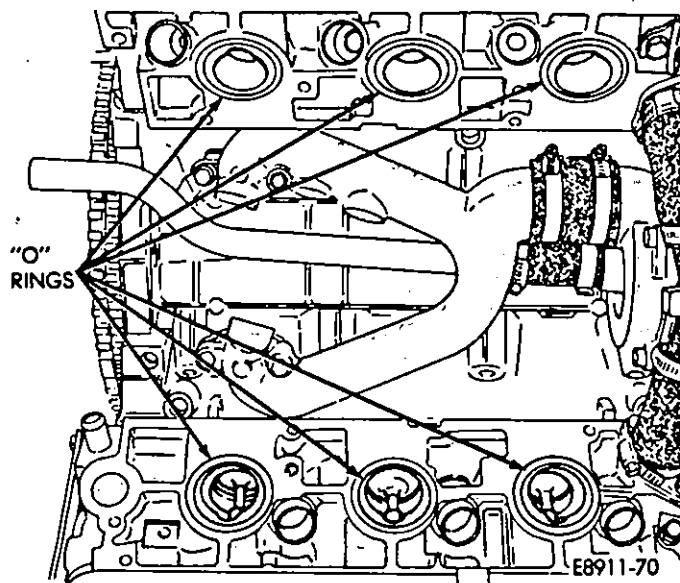

Fig. 7—O-Rings In Cylinder Head
- (1) Install new O-rings in the cylinder head (Fig. 7). The original O-rings must not be reused.
- (2) Install the intake manifold. Tighten the intake manifold bolts to 15 N·m (11 ft-lbs) torque.